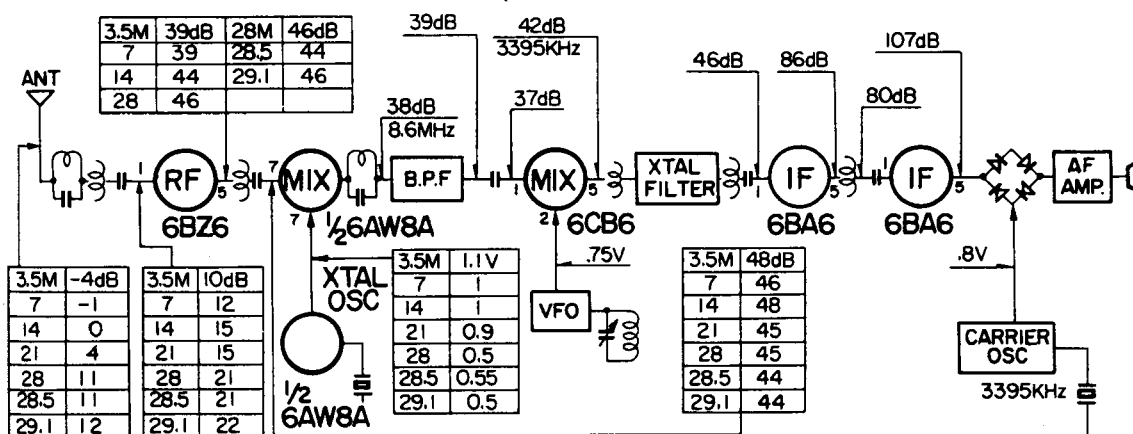

Fig. 16
Fig. 16 shows a level diagram in the receiving portion.
- Each value in Fig. 16 shows the attenuator reading of SSG taken when the pointer of S meter starts to move slightly from "0".